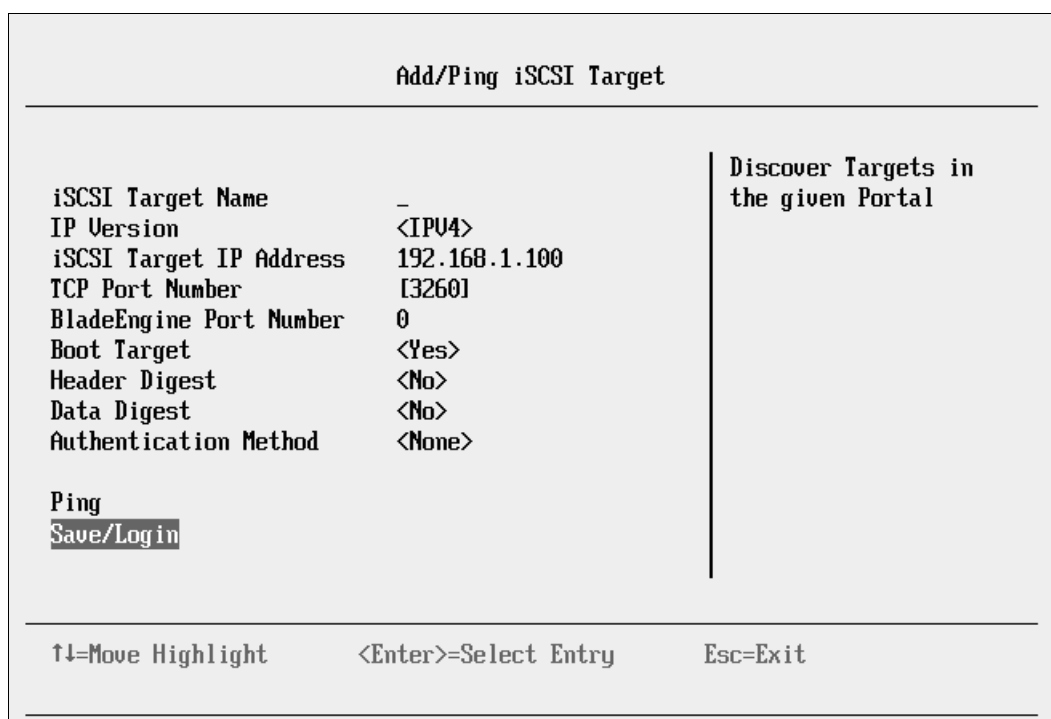

Figure 9-83 Add/Ping iSCSI Target window
12. In the Add/Ping iSCSI Target panel (Figure 9-83), follow these steps: